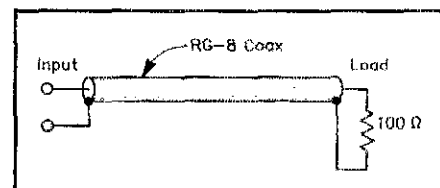

Fig 2—With 100 Ω connected at the load end of a length of RG-8, the problem is to determine what the line looks like at the input end.
Now suppose we take this same piece of RG-8 and connect a 100-Ω resistor at the load end, as shown in Fig 2. Measuring the impedance at the input end, what should we get for an answer? 50 Ω? 100 Ω? 200 Ω?
Fig 3—Part of the answer to the problem posed in Fig 2. When the line is $\frac{1}{4} \lambda$ long, it looks like 25 Ω at the input end when the load is 100 Ω . When the line is $\frac{1}{2} \lambda$ long, the input end shows an impedance equal to that connected at the load end.
*Accuracy of the R_S/R_L determination could be improved by considering the output-network loss. In Fig 2, observe that the P4 signal is attenuated twice by losses in the amplifier output network: once when it passes through the network as part of P3, and again when it returns as P4. Network losses are typically 5% to 20%, which corresponds to approximately 0.25 to 1.0 dB. Twice this estimated loss can be subtracted from the measured decibel difference to obtain a corrected decibel difference. The result is an even larger ratio of R_S/R_L (or R_L/R_S , whichever is greater than 1) than that shown in Fig 4.